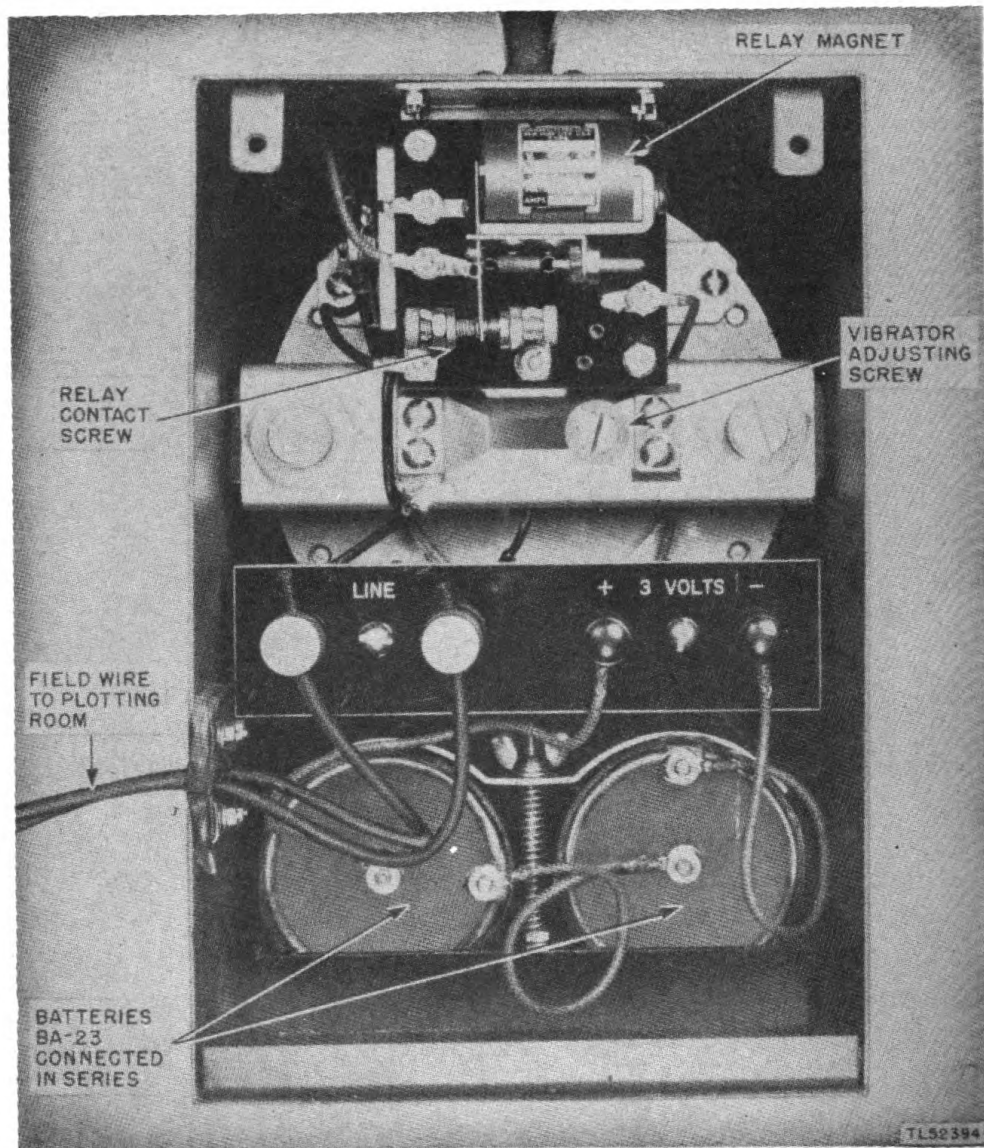

Figure 12. Time Interval Signal BE-65—rear view with cover open.
b. PANEL. (fig. 12.) A terminal panel is mounted inside the
c. RELAY (fig. 12). The relay used in Time Interval Signal BE-65 is a high-resistance 1 make-1 break relay designed for operation on a minimum of 5.17-volt direct current. The winding is connected to the LINE terminals on the panel. The make contacts are connected in series with the batteries and horn magnet winding. The break contact is not used.